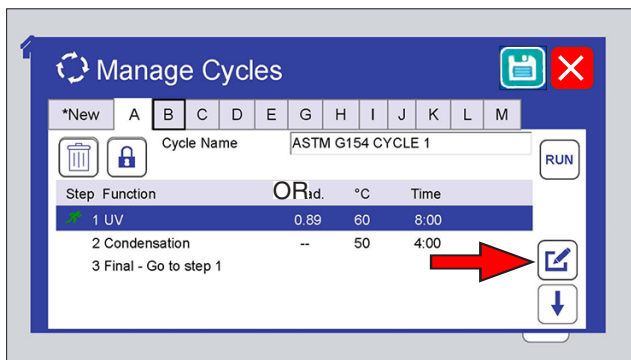
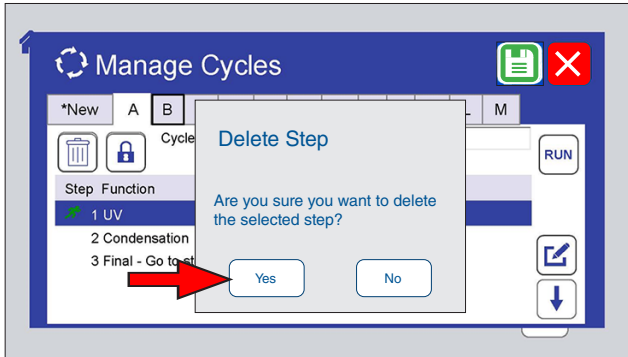

Figure 9.6.4a: For any cycle, a new step can be added before or after an existing step. Select the existing step then touch the Edit icon.
Figure 9.6.6c: Touch the Yes button to delete the step or touch No to cancel the delete.
- o Add, edit, or delete steps in a cycle (Figure 9.6.4a through Figure 9.6.6c). Pre-programmed test cycles cannot be edited (they can be deleted).